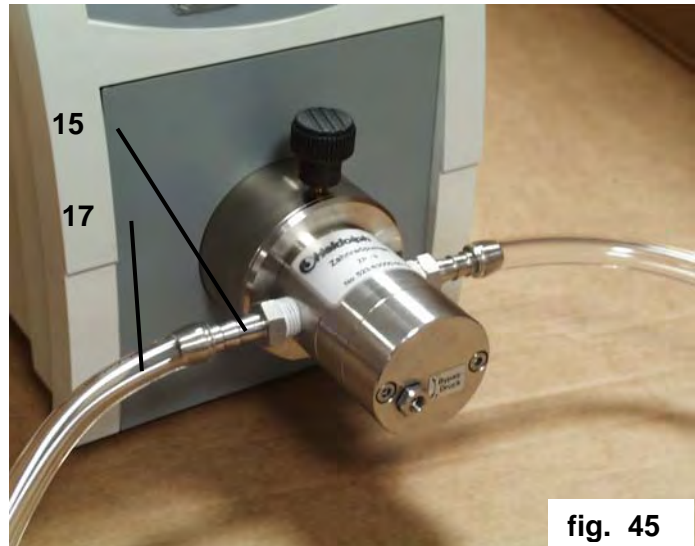

fig. 45
6.1. Connect hoses (fig. 45)
- Slip hose (17) (refer to reference table for ID) over nipple (15) and secure with industrial quality hose clamp (very important, when working at high pressure levels); inlet end is left, outlet end is right, pump running clockwise.